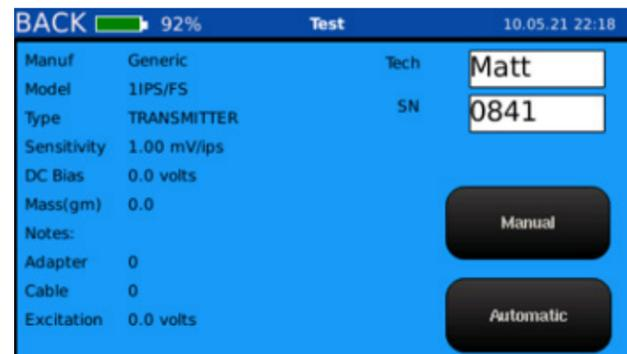

Figure 38. Sensor profile screen
- Select the **Manual button** or **Automatic button** on the sensor profile screen (*Figure 38*).